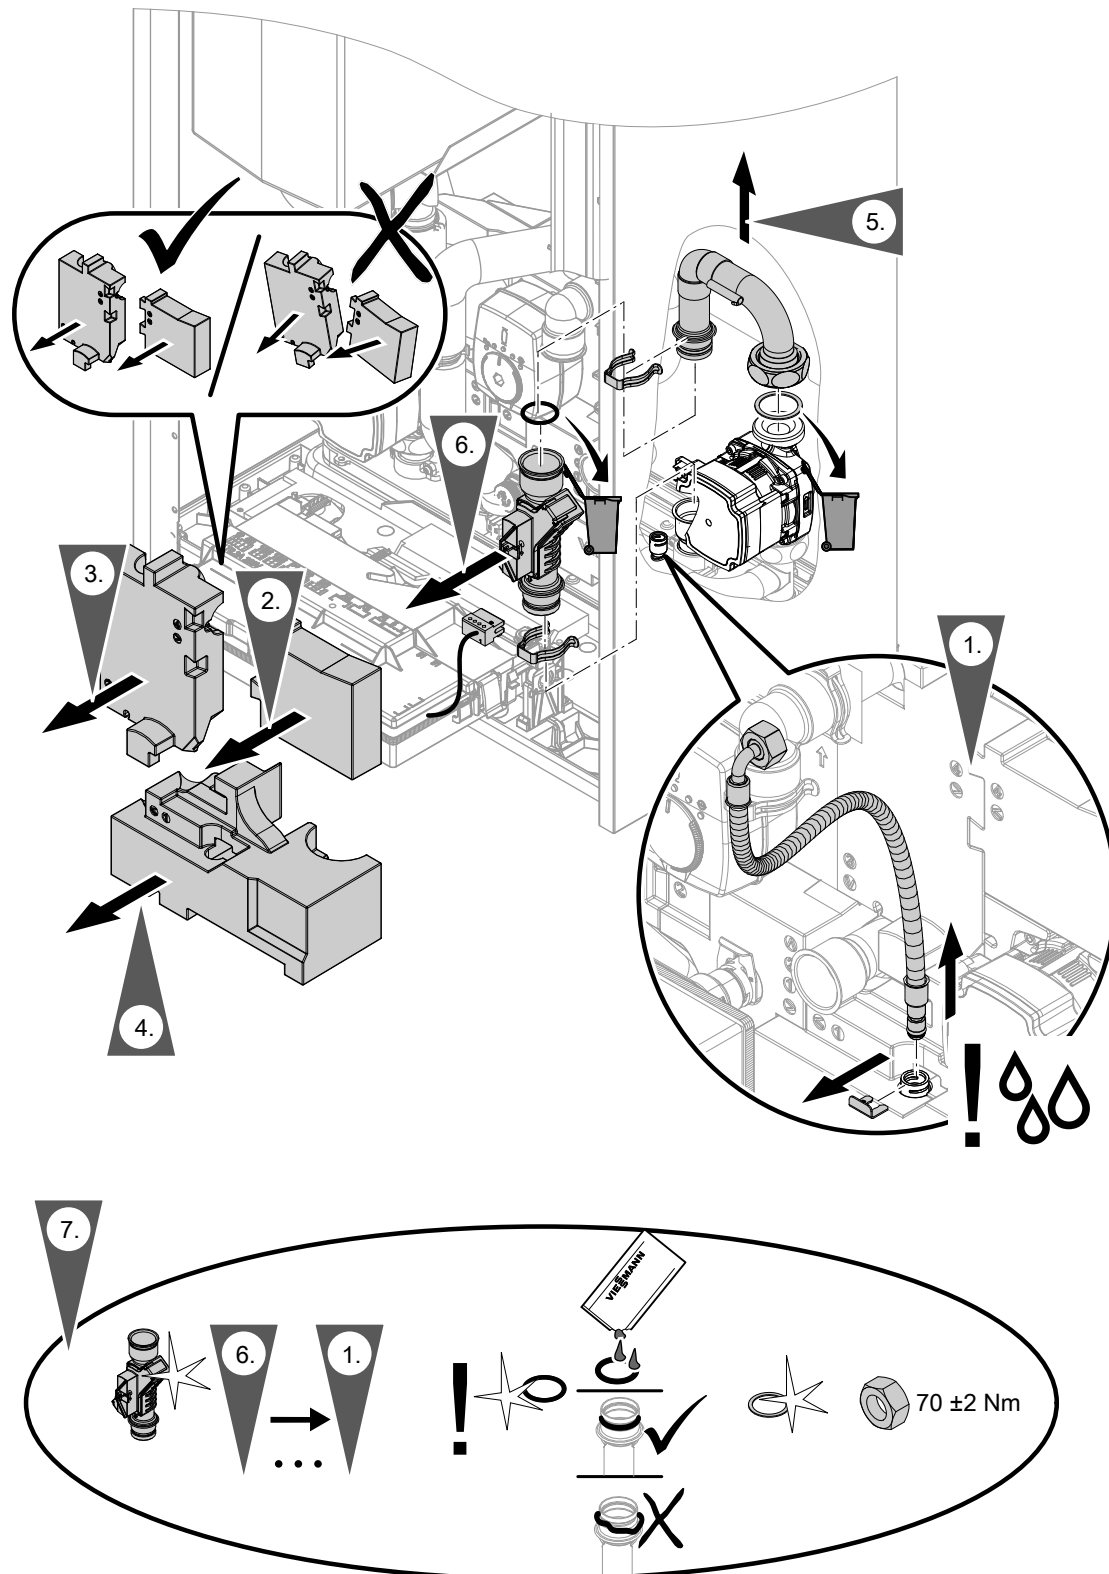

Fig. 91
- Flow sensor connecting cable: See Fig. 91.